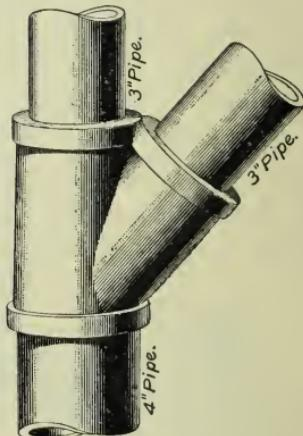

FIG. 17
**29. An angle tee, or Y branch,** is a fitting having an outlet that branches off at an angle of  $45^\circ$  to the axis of the main run. It is designated, or read, the same as a tee, except that the kind of outlet is designated by calling it a **Y**. Thus, the fitting shown in Fig. 17 is called a *4" × 3" × 3" reducing Y branch*. These fittings are kept in stock in straight sizes, that is, with all outlets the same size; the reducing fittings must be made to order to suit the conditions.